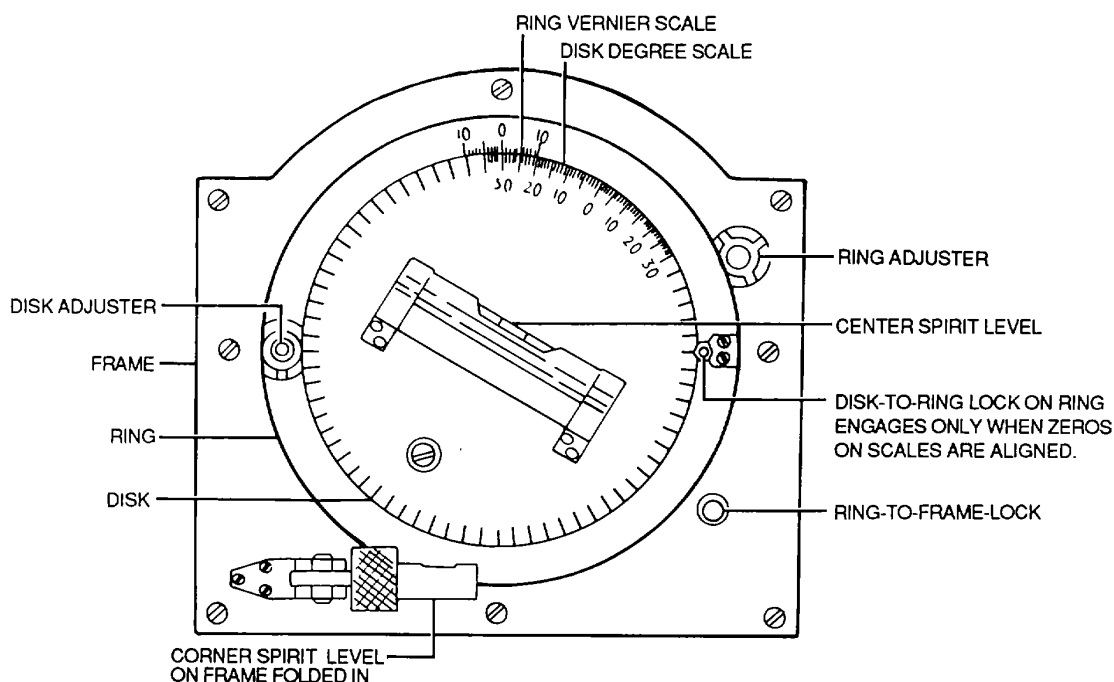

Figure 7-1. Protractor
*a. Description.* The protractor, shown in figure 7-1, consists of an aluminum frame in which a steel ring and a disk are mounted. Spirit levels are mounted on both the frame and disk. Locks are provided for locking the ring to the frame or the disk. Scales are marked on the disk and the ring. Zeros of the scales provide reference marks between which the angle may be read. Hand adjusting screws are provided so that the ring and the disk may be rotated in relation to the housing and to each other. Functioning parts of the protractor are described in the following paragraphs.